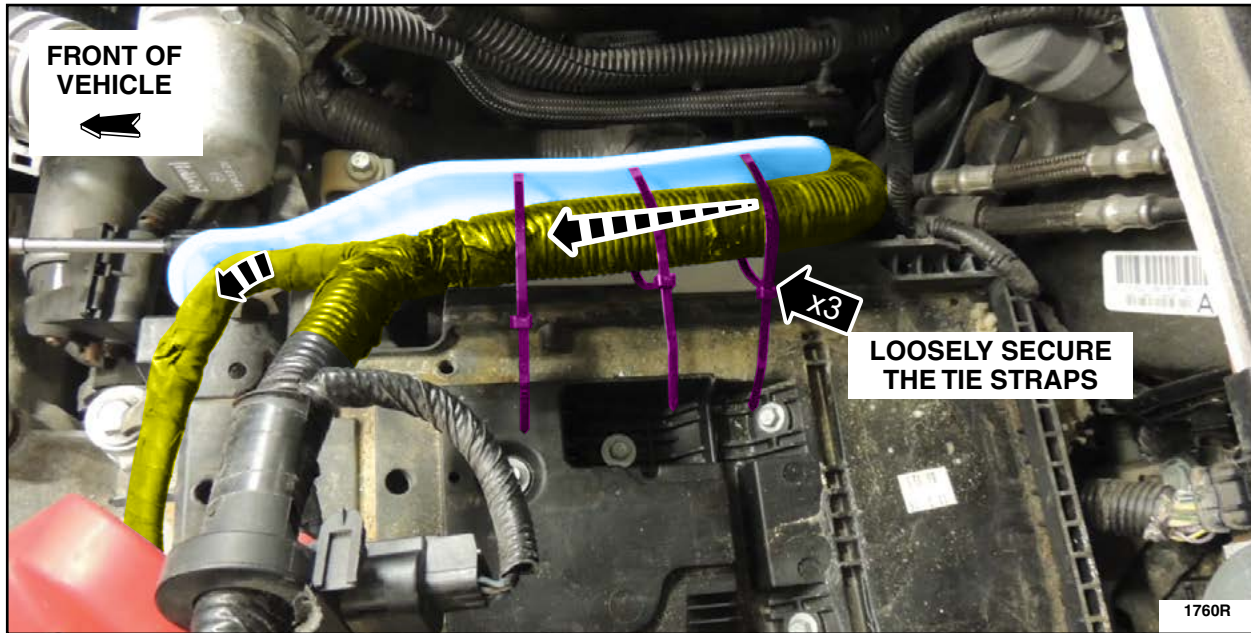

FIGURE 6
7. Route the battery cable wiring harness along the shield path around the front of the battery tray. Loosely secure the three tie straps around the battery cable wiring harness. See Figure 6.